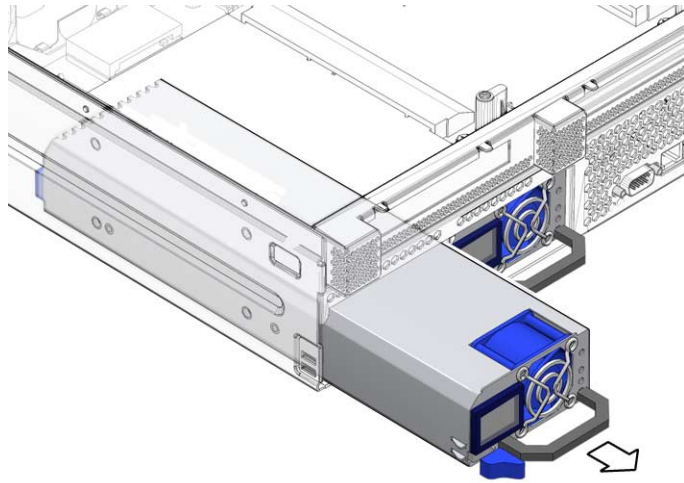

FIGURE 3-71 Removing a Power Supply From the Chassis
4. Pull the power supply out of the chassis (FIGURE 3-71).